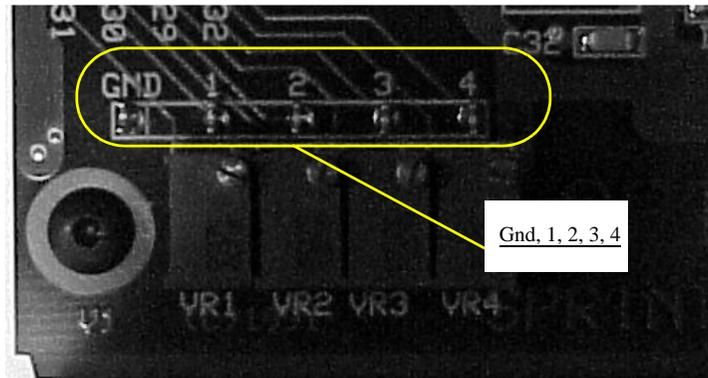

Figure 6-57—Test pins
- 3c) Just above these are five test pins (GND, 1, 2, 3 and 4). See Figure 6-57.